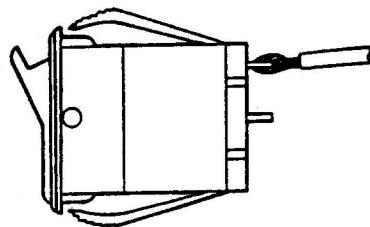

FIGURE 5
- a) **THREE-TERMINAL SWITCH:** Thread either lead through the hole in either outside terminal and crimp it with the pliers, so that the lead forms a loop around the end of the terminal (Figure 5). Attach the other lead to the middle terminal in the same way.
TWO-TERMINAL SWITCH: Clean the terminals of the switch with an eraser; then tin them. Then thread one lead through each terminal and crimp it with pliers, to form a loop around the end of the terminal as in Figure 5.